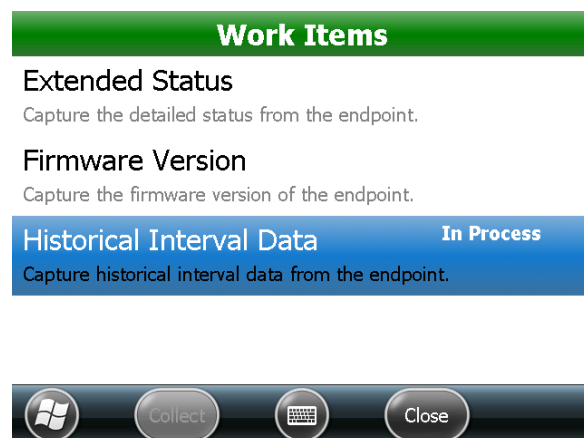

Figure 49: Historical data extraction started
*"In Process" is shown on the Work Items screen next to the Historical Interval Data field. See Figure 49.*